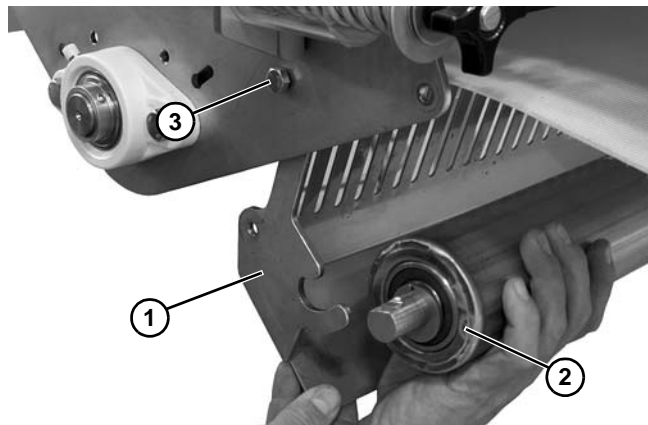

Figure 108
5. Swing idler guard assembly (Figure 108, item 1) down. Remove the idler pulley (Figure 108, item 2).